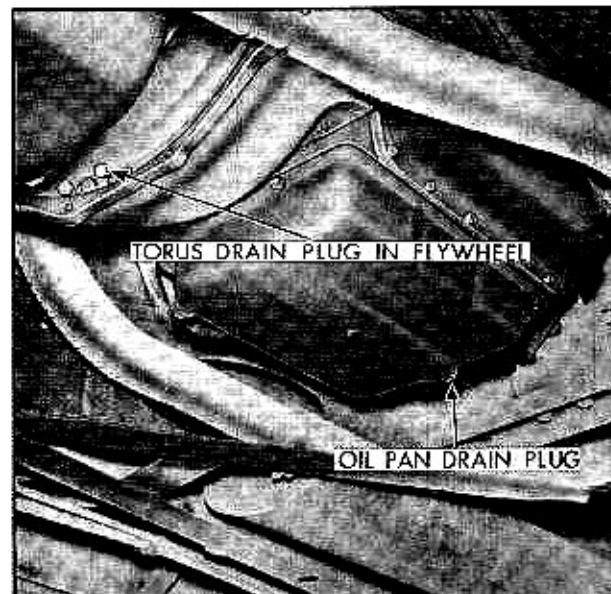

Fig. 2-7 Transmission Drain Plugs
3. Remove drain plugs, Fig. 2-7, from transmission oil pan and front face of flywheel.